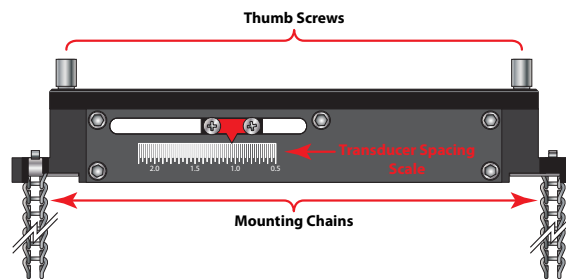

Figure 29: Transducer spacing scale for DTTSU transducers
1. Determine the transducer spacing required using the flow meter and the scale on the side of the DTTSU transducers, set the spacing. See Figure 29.